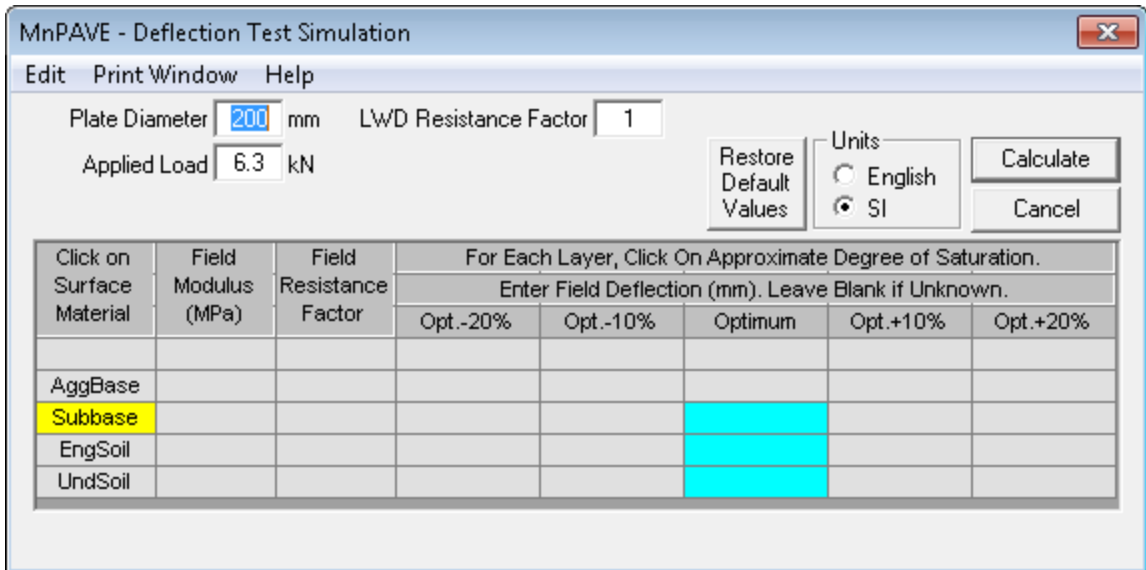

Figure 3 LWD Simulation Window
- Click the **Simulate LWD** button at the bottom of the **Advanced Structure** tab. This will open the LWD Simulation window (see Figure 3).